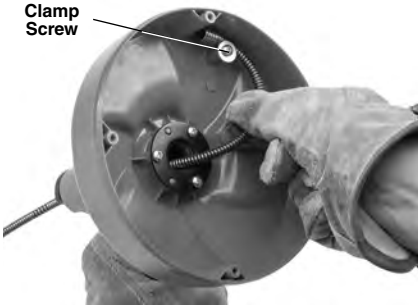

Figure 11 – Securing Cable End
4. Remove cable clamp screw. Remove existing cable (Figure 11).
7. Place cable end as shown inside drum (see Figure 11), and secure with cable clamp screw.